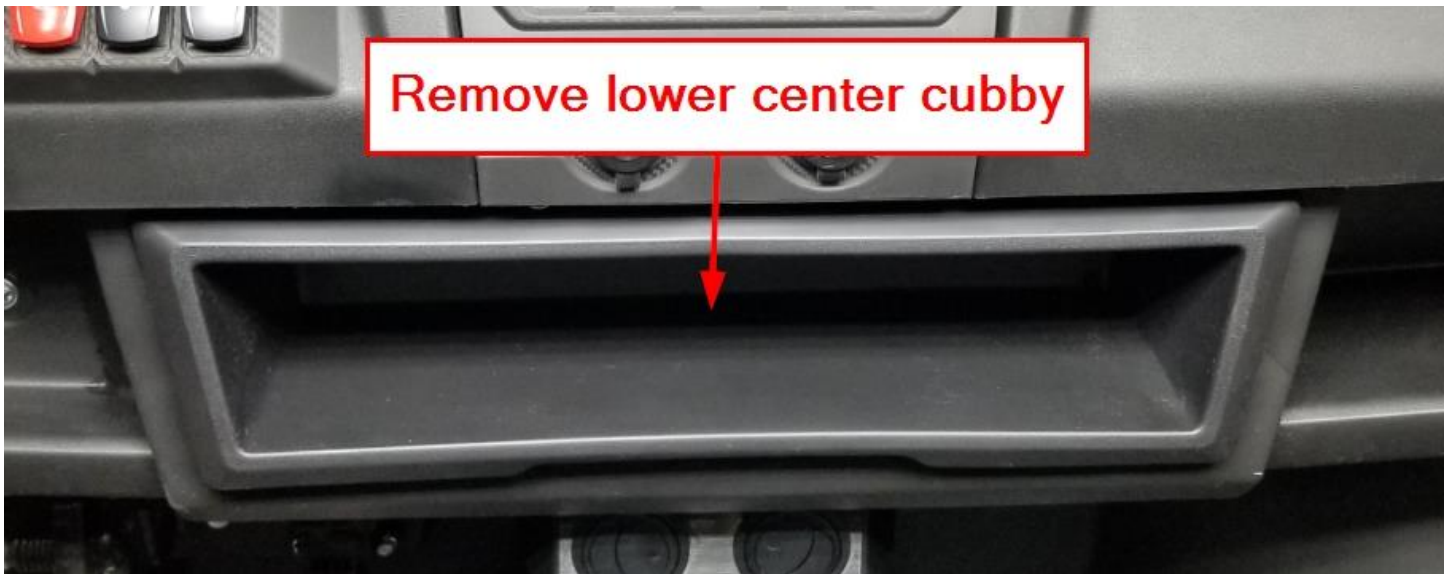

Figure 2
- c. Remove the lower center cubby shown in Figure 2 and set aside.